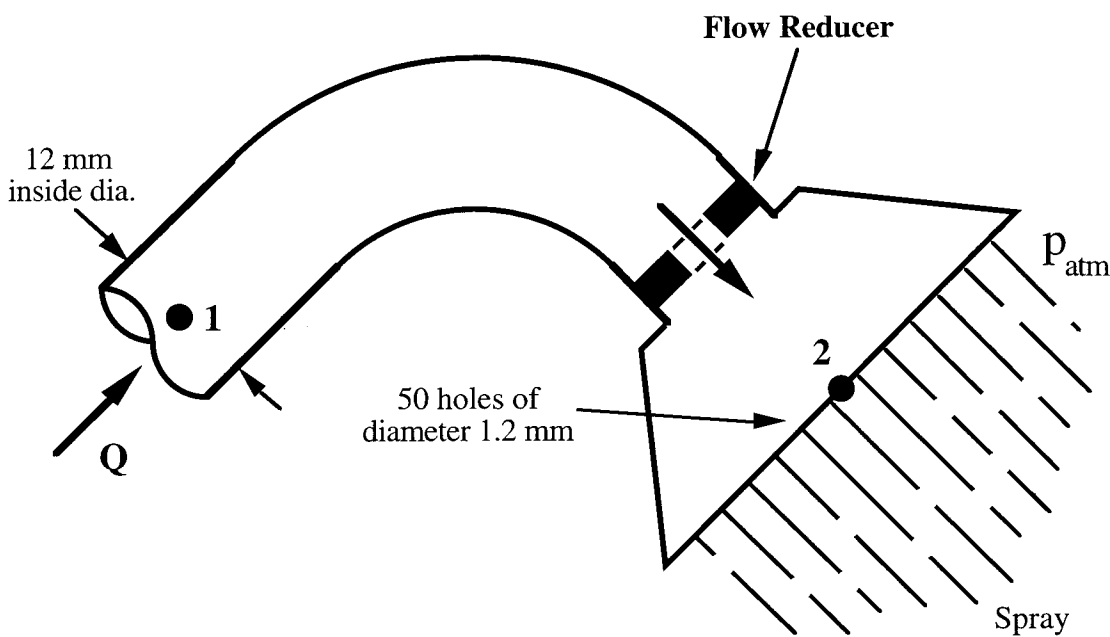

Figure 2. Shower head with “flow reducer”.
- (b) (20 marks) To conserve water and energy, a “flow reducer” (orifice plate) is installed in the shower head, as shown in Figure 2. The pressure at the inlet (Point 1) remains constant, independent of the flow rate. The external pressure (Point 2) is atmospheric. The “flow reducer” reduces the flow rate by a factor of 2.